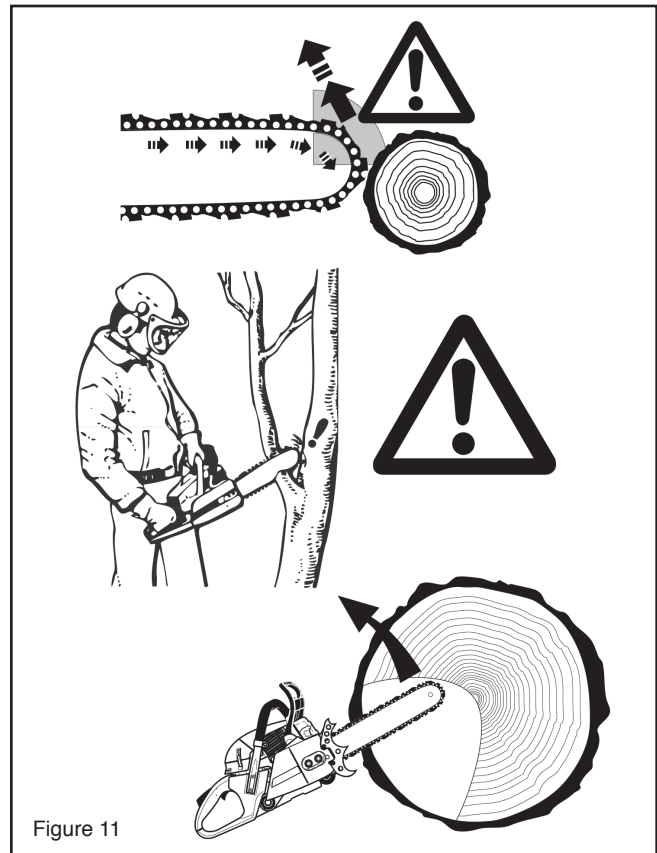

Figure 11
Kickback occurs when the upper quadrant of the bar nose contacts a solid object in the wood or is pinched (Figure 11). The reaction of the cutting force of the chain causes a rotational force of the chainsaw in the direction opposite to the chain movement, mainly in the plane of the bar. This may fling the bar in an uncontrolled arc towards the operator.
- **The contact angle between the nose of the bar and the foreign object (Figure 11).** Kickback is most pronounced in the upper quadrant of the bar nose.